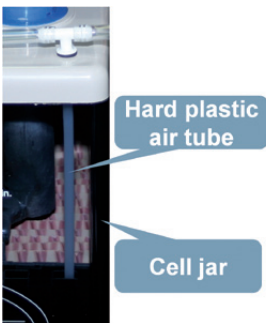

Figure 9: Hard plastic tube
3. Insert delivered hard plastic air tubes (one into each battery cell). Refer also to Figure 9).